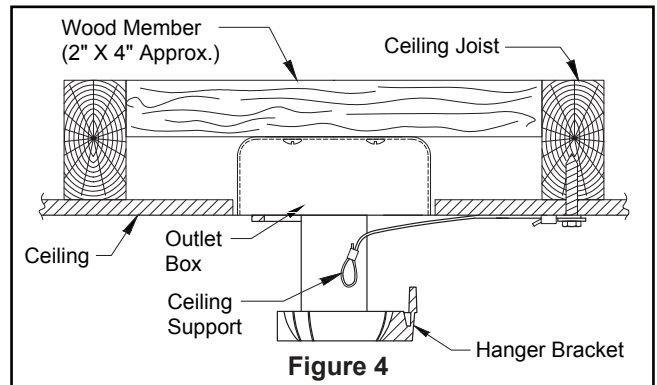

Figure 4
- 4. Loosen the two set screws and locking nuts in the downrod support of the motor assembly. Route the black, white, blue wires and safety cable through the downrod. (Figure 4)
4. Align the three big slots in the ceiling canopy to the three screws in the motor coupler. Firmly attach the canopy cover to the motor with the previously removed screws. (Figure 4)
2. Securely attach the hanger bracket to the outlet box using the outlet box screws and washers supplied with the fan. (Figure 4)
3. Using the 3/8" x 2" lag bolt and flat washer, attach safety cable to ceiling joist or wood structural member. The lag bolt will pass through the flat washer, safety cable loop, and into the building structure (Figure 4). You will first drill a 1/4" pilot hole into the building structure to prevent splitting or cracking.
**NOTE:** Ceiling support cable cannot be secured to outlet box only, it must be directly secured to ceiling joist or structural member using the 3/8" x 2" lag bolt and flat washer. (Figure 4)